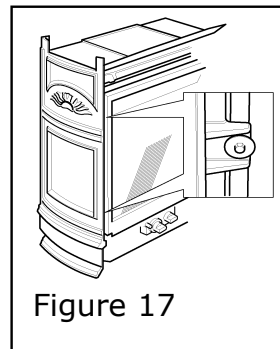

Figure 17
4. Fit the sides to the engine unit case with two machine screws and washers per side. See figure 17.